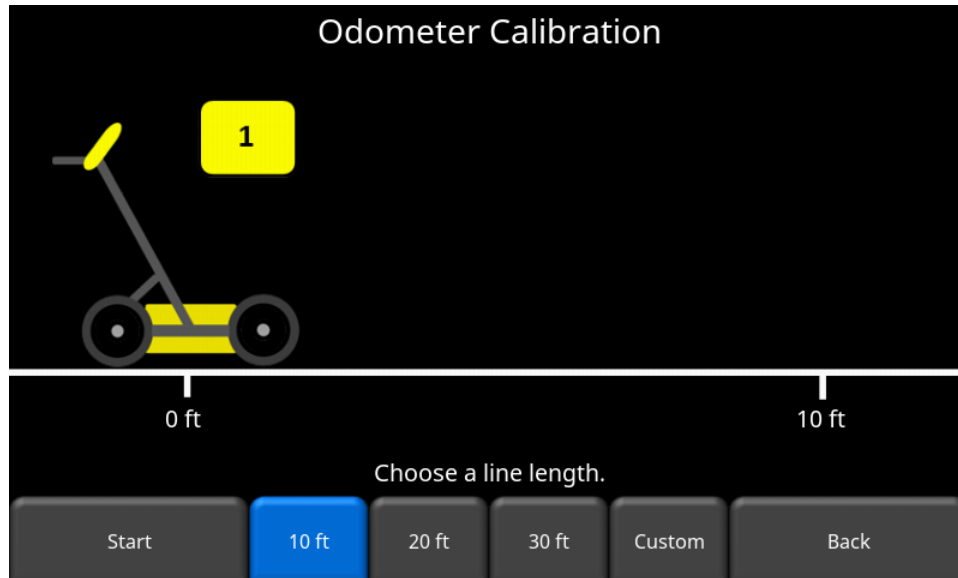

Figure 4-20: Odometer Calibration – select a distance and then press Start
- Odometer Calibration** - This option actually calibrates the odometer (Figure 4-20). Choose a set distance from the screen or select Custom. Then press **Start** and then move the system that exact distance, using a measuring tape or other known distance indicator. Press **Finish** when you have travelled that distance